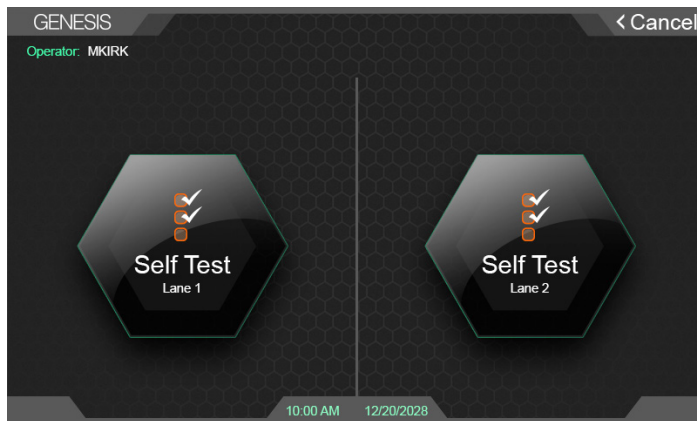

Fig. 18. Run Self Test.
- Press “Start” from the GUI home screen to reach Self Test screen. Select each lane to initiate the “Self Test” (Figure 18).